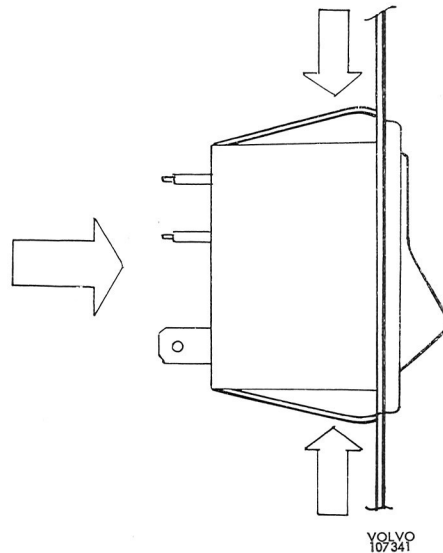

Fig. 3-148. Removing headlight switch
4. Remove the switch by first pressing in the lock springs and then pressing the switch out of the panel, see Fig. 3-148.